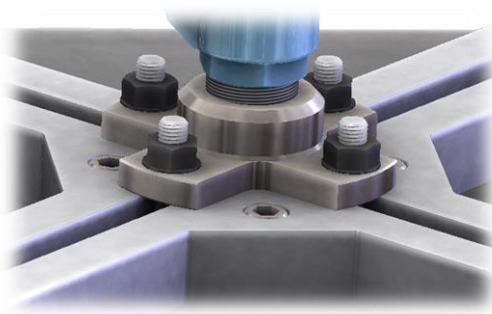

Figure 14: Utilization of ENG-886001
- i. The ENG-659001-38 (4" tall) t-nut assemblies are used in the bolt holes as depicted in Figure 14.